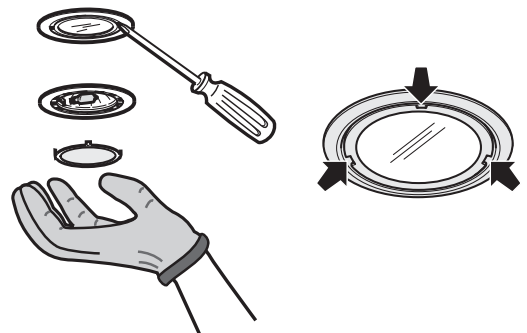

Fig.4
Replacing bulbs - Fig. 4
2. Use a small screwdriver to gently prise the lamp cover off (at the points indicated in Fig. 4).